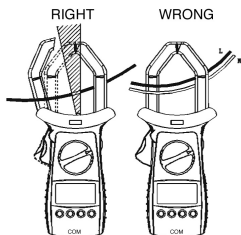

FIG 12
J. AC Current Measurement (See figure 12)